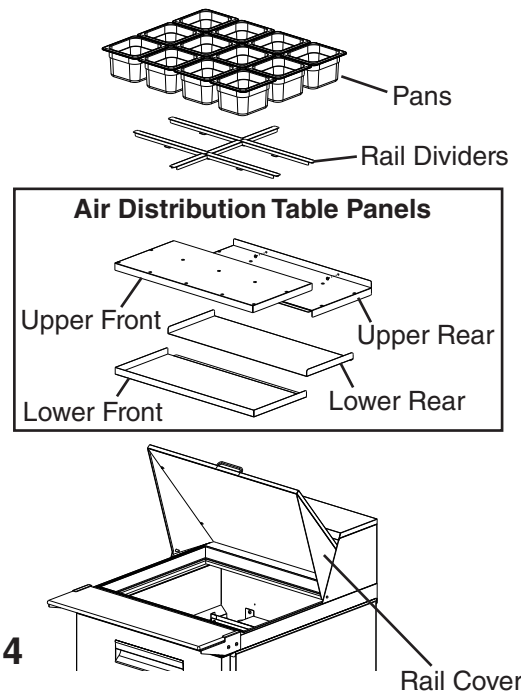

Fig. 14
- 3) Remove the pans and dividers from the rail. See Fig. 14. **WARNING! Support the rail cover when cleaning. Otherwise, the rail cover could close suddenly and cause injury.**